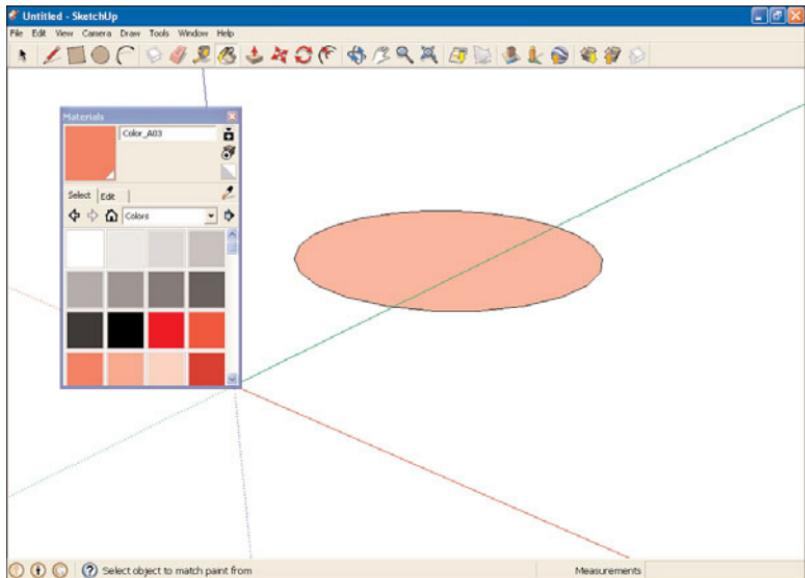

FIGURE 7.8 A pink circle.
7. Click the horizontal circle. The circles are painted plain pink, as shown in Figure 7.8.